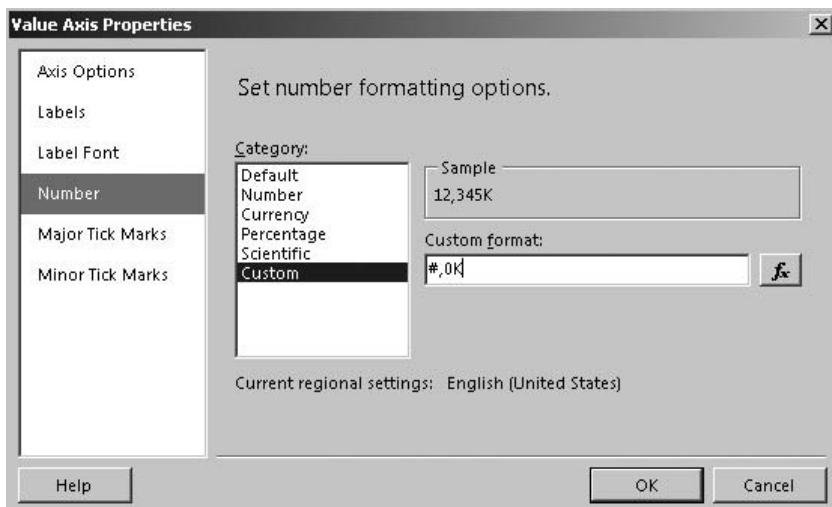

Figure 16-53 The custom format for the Y axis labels
69. Enter #,0K for Custom format, as shown in Figure 16-53. The stored procedure divides the sales values by 1,000, so our graph scale should read thousands of dollars, thus the K on the end.